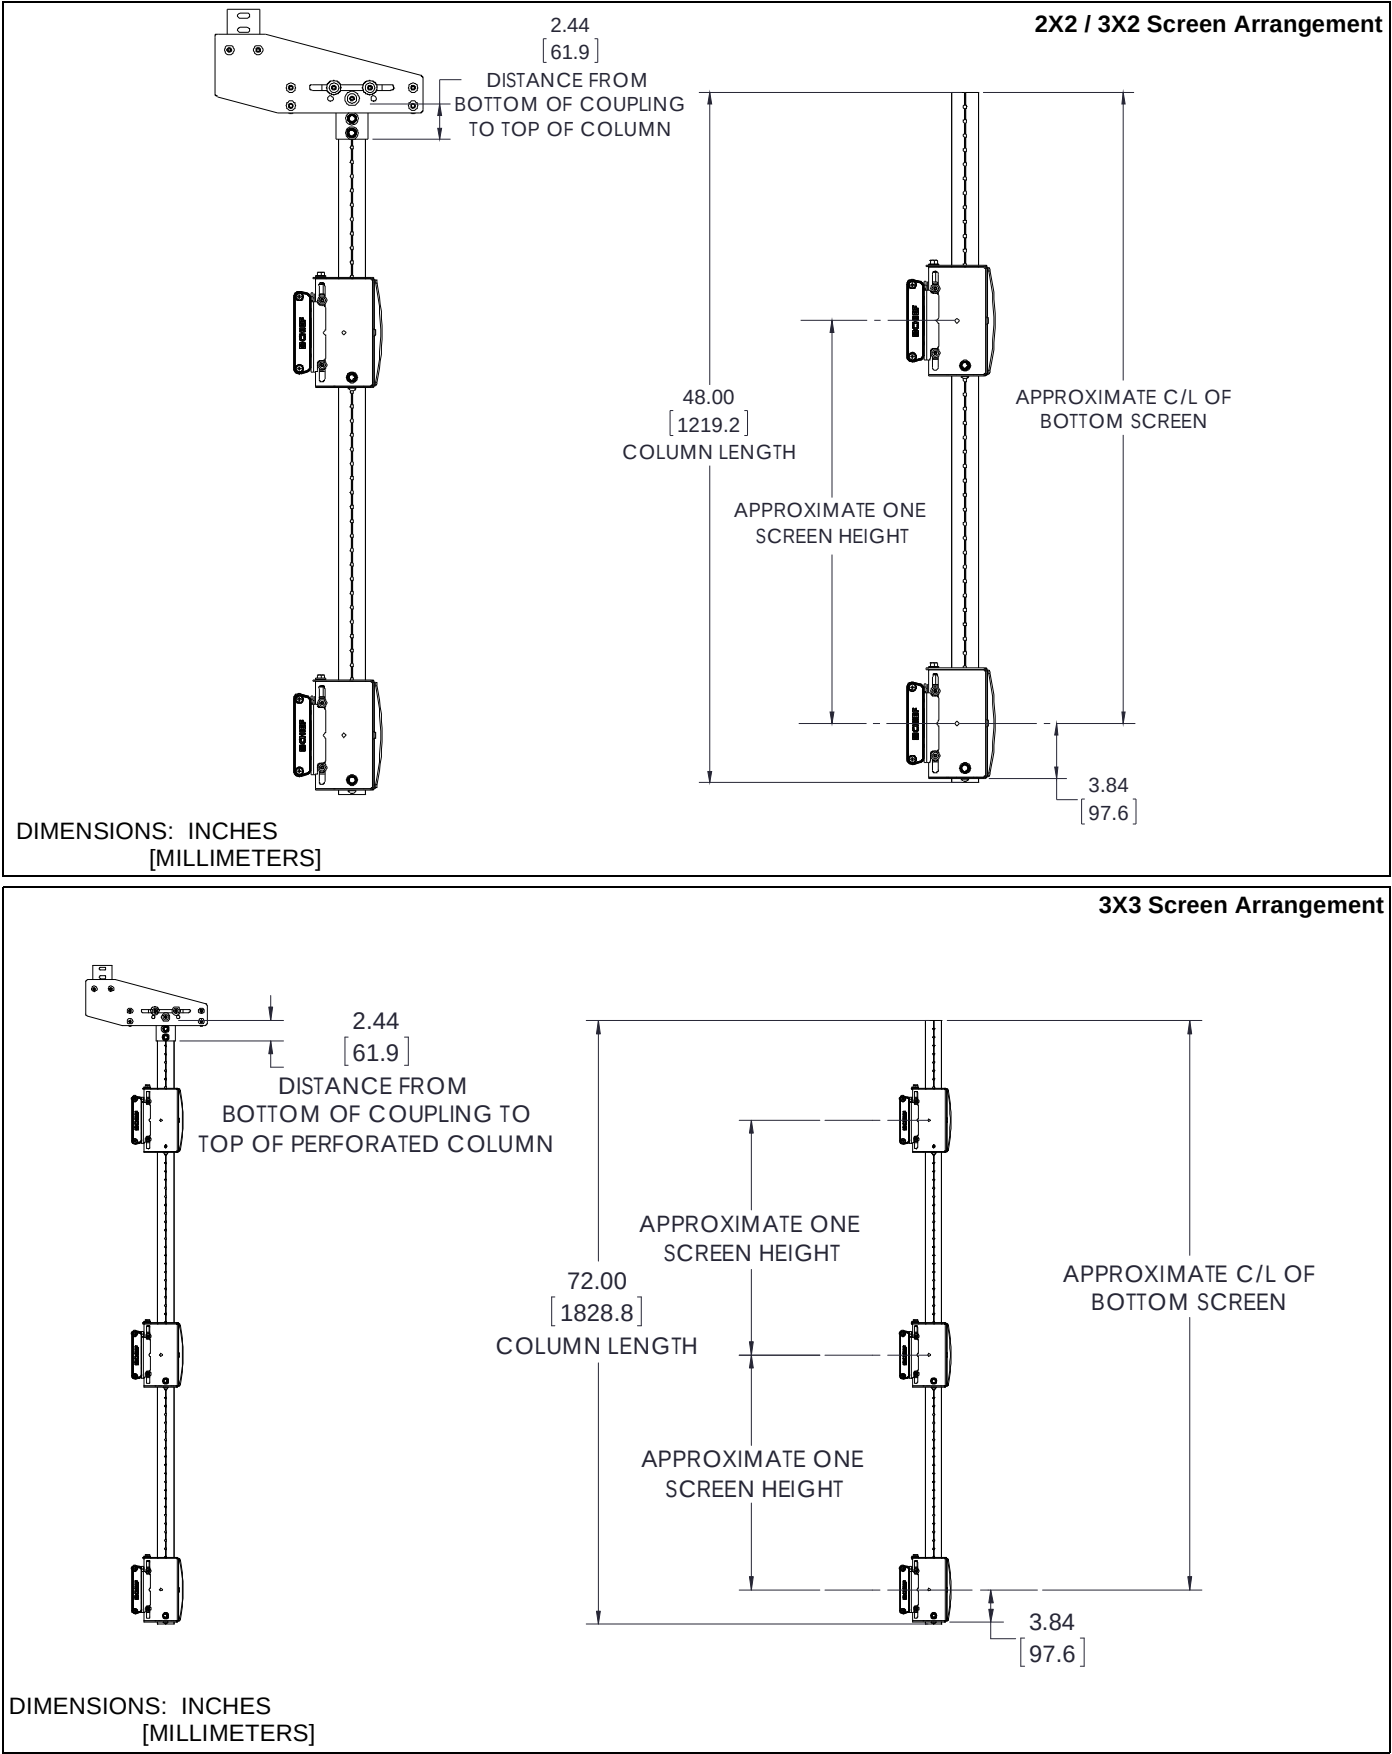
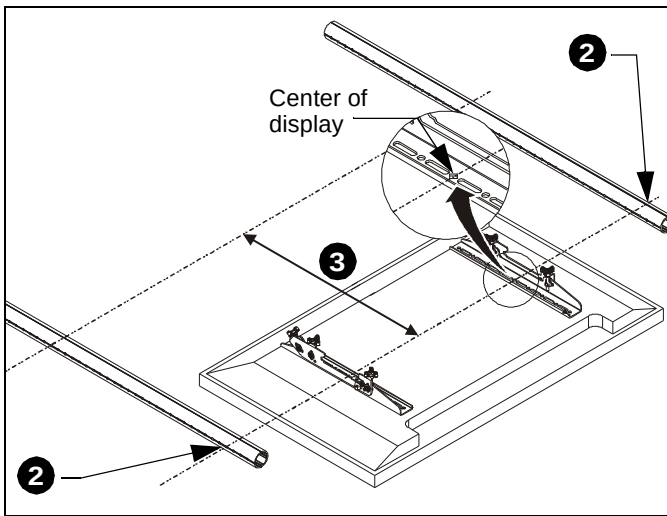

Figure 4
Figure 5
1. Lay columns (GG or JJ) on floor and carefully place display next to columns. (See Figure 4) and (See Figure 5)
2. Mark center of display (diamond on interface brackets) onto both columns. (See Figure 5)
3. Measure one screen height up on the columns from the first mark. (See Figure 4) and (See Figure 5)
4. Make a mark at upper spot on both columns. (See Figure 4)
5. Slide an array head (X) onto column up to the highest mark on the column.